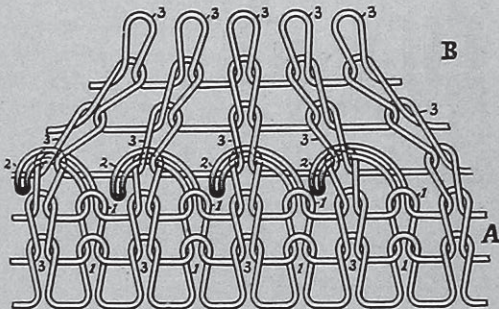
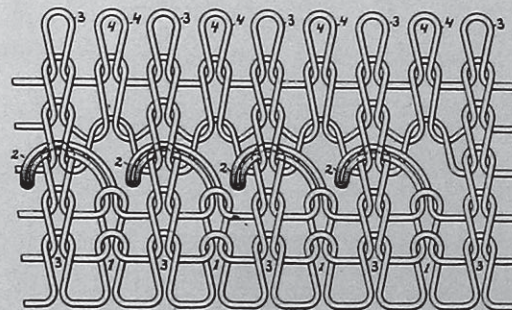

Fig. 2
Fig. 4
We will now give a description of the manufacture of this new knit fabric as patented by the Salt's Textile Mfg. Co., and for which reason the accompanying five illustrations are given and of which Fig. 1 is a plan view of a portion of a knitting cylinder, employed in the manufacture of the fabric. Fig. 2 is a side view of a portion of said cylinder to illustrate the manner of introducing, *i. e.*, stretching the curled face yarn, the needles being spaced apart for the sake of clearness. Fig. 3 is a view of the face yarn as it comes from the curling machine, Fig. 4 a face view of the finished fabric, and Fig. 5 a section thereof.
shown in Fig. 3, the rings or curls being regular in form and closely disposed. It is impossible for such a curled yarn, in its normal condition, to pass through the backing wheel and in order that the said yarn may be properly placed upon the needles, it is necessary that it be straightened. For this purpose the tension device shown in detail in Fig. 2 has been designed, the same comprising two sponges 13, supported in cups 14, said cups being carried upon threaded studs 15 adjustable in brackets on a base 16, the latter being secured to the machine frame in proximity to the backing wheel. The sponges 13 are saturated with olive oil, and are so adjusted relatively to each other that as the curled yarn is drawn between them, the drag or tension placed thereon is just sufficient to straighten the yarn, as indicated by the portion 1'. The yarn is thus made practically straight between the tension device and the backing wheel 4, but as soon as it leaves the latter the normal curled condition is resumed. The presence of the curls in the face yarn after being placed on the needles does not interfere with the subsequent stages of the knitting operation, the said yarn being acted upon by the several wheels of the feed called into play after being placed upon the needles, and bound to the back yarn 2 by the tying-in yarn 3, in the same manner as is done with common yarn.
Fig. 2 illustrates a fabric structure partly ribbed (A) and partly plain (B), having discontinued rib wales 1 whose end loops 2 are prevented from run-
ning-back by being carried across the adjoining plain wale 3 and held thereby, due to frictional hold upon it. The same is also true of fabric structure Fig. 3, although in this case the loops 2 of the discontinued wales 1, instead of being engaged with the adjoining continuous wales by being laid across the same as is the case with fabric structure Fig. 2, is in this instance drawn through a stitch of said continuous wale 3.
Fabric structures shown in Figs. 4 and 5 are similar to those shown in Figs. 2 and 3 respectively, with